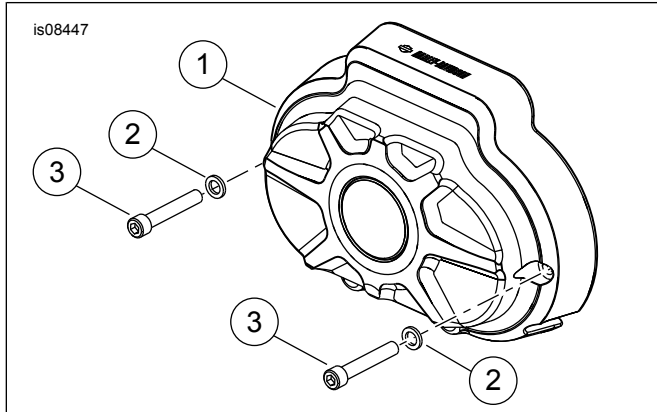
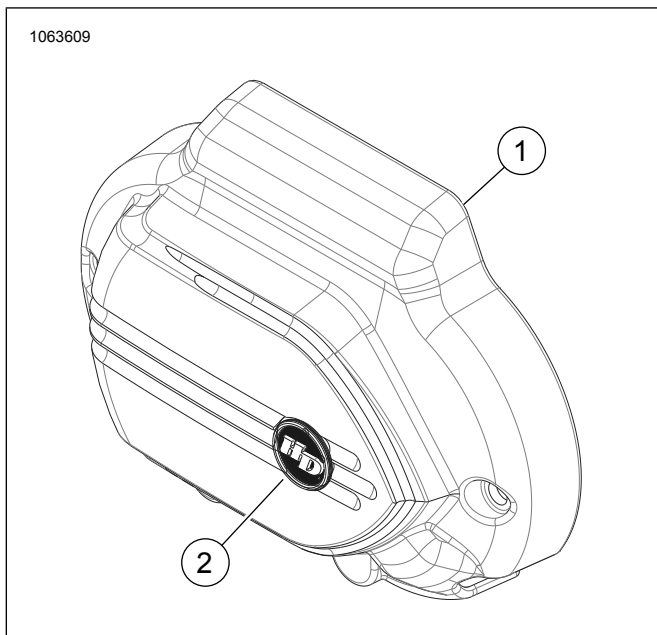
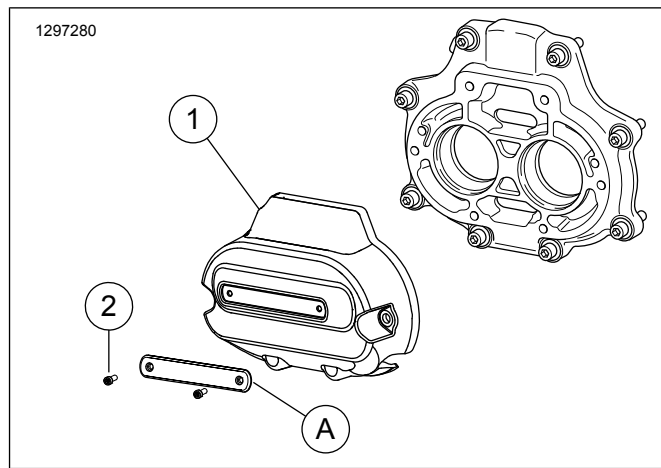

Figure 2. Burst Transmission Side Cover (for kit 34800026)
Figure 3. Transmission Side Cover
Figure 4. Dominion Transmission Side Cover
See Figure 2, Figure 3, Figure 4 and Table 1, Table 2, Table 3
1. See Figure 4. Remove screw (2) from insert pockets and retain.
- Install insert (A) with screws (2). Tighten.